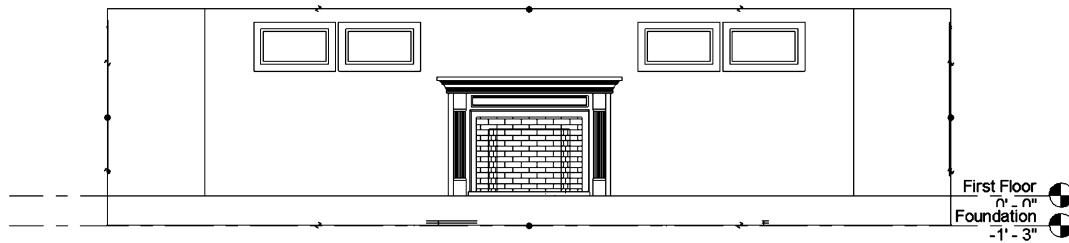

FIGURE 10-3.2 Living Room - East, initial view
Initially, your elevation should look something like Figure 10-3.2; if not, you will be adjusting it momentarily so do not worry. You will adjust this view next. Notice how Revit automatically controls the lineweights of things in section versus things in elevations.
You should compare the two drawings on this page (Figures 10-3.2 and 10-3.3) to see how the control lines in the plan view dictate what is generated and visible in the elevation view for both width and depth.
- Now select **Undo** to return to the previous view state (Figure 10-3.2).